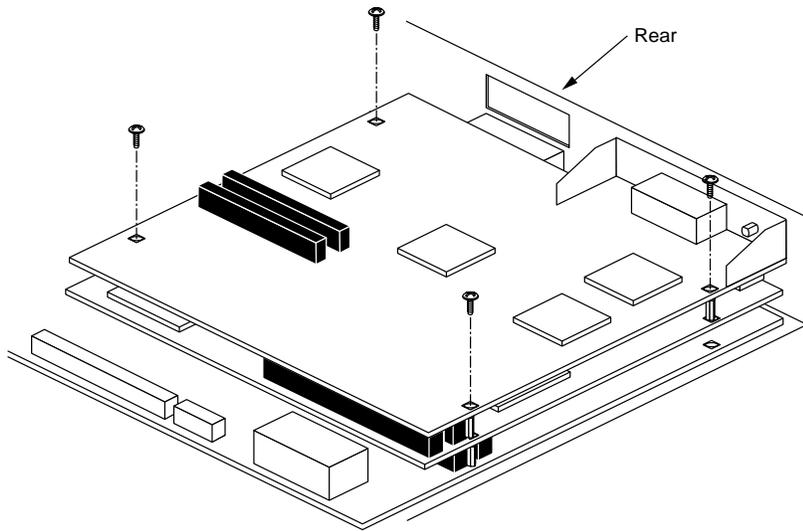

Figure 2-11 Inserting the Screws on the X Board
- Before attaching the screws to the rear of the workstation, check that the screwholes on *top* of the board are lined up directly above a matching standoff screw on the board below. (See Figure 2-11.)
- Using the Phillips screwdriver, insert and tighten the four screws in the locations shown in Figure 2-11. As you tighten the screws, alternate among them so that the board is fastened evenly.